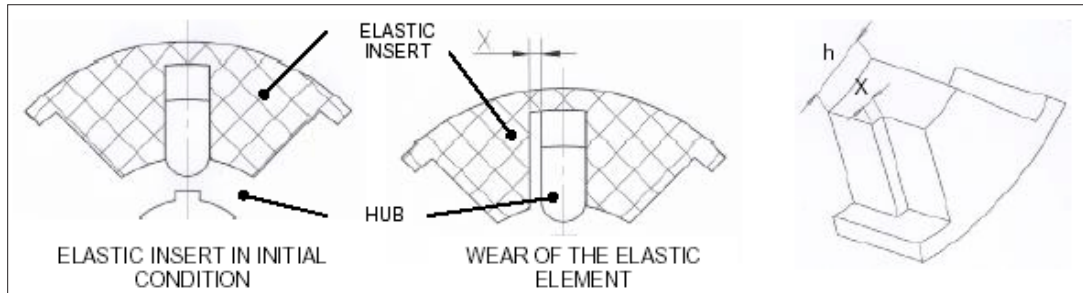

Figure9 — Inspecting the Elastic Insert for Wear
12.3.3. Remove the elastic insert and inspect for wear, referring to fig. 9 and table 7. Discard the insert if it is worn beyond the limit shown.